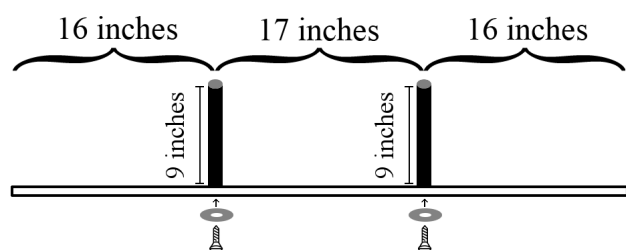

Figure 2: side view
Step 3: Screw the screw (with washer) through each pilot hole in the fiberboard and into the dowel to secure it. (See Figure 2).